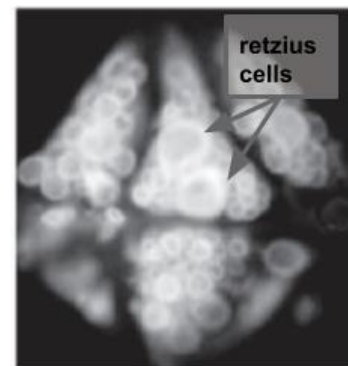

Figure 3. Ventral view of leech ganglion.
3. When you can clearly see your ganglia, see if you can spot the two Retzius cells in the middle (Figure 3).